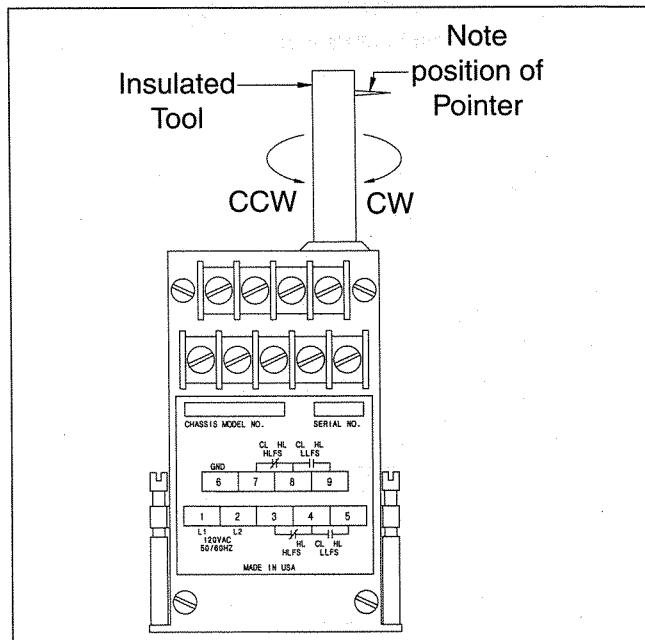
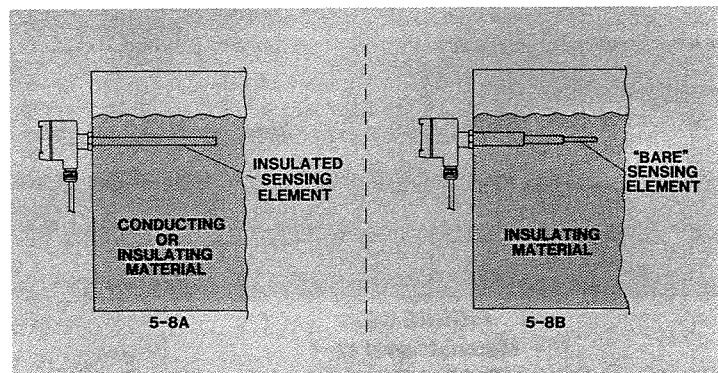

FIGURE 5-5
FIGURE 5-8
Be sure to use the insulated calibration tool. See Figure 5-5. Do not turn any adjustment past its mechanical stops. Damage to the unit could occur. LED on indicates that the relay is energized, or in the normal condition (not alarm).
Note: Be sure to use the insulated calibration tool. See Figure 5-5. Do not turn any adjustment past its mechanical stops; damage to the unit may occur. LED on indicates that the relay is energized or normal condition (not alarm).
- B.** Using the *insulated tool* supplied with the instrument, turn the set point adjustment to the full counterclockwise (CCW) position. See Figure 5-5.
- C.** Turn the adjustment slowly clockwise (CW) until the relay just operates. (LED changes states).
- E.** Increase the material level until it is well above the sensing element. See Figure 5-8. (LED changes states).
- F.** Counting the number of turns, turn the adjustment slowly clockwise (CW) until the relay once again just operates or you come to the end of the adjustment travel.